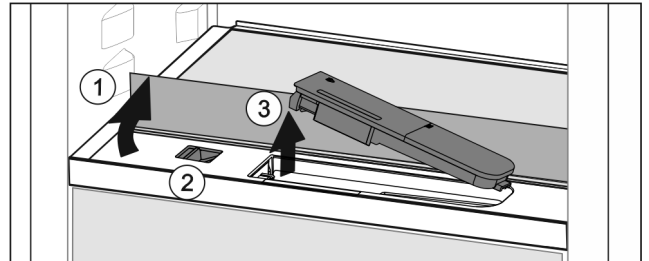

Fig. 134
- ▶ Lift the glass panel and fold towards the rear until it clicks into place Fig. 134 (1).
- ▶ Slide the slider Fig. 134 (2) to the left.
- ▶ Remove the water tank Fig. 134 (3).